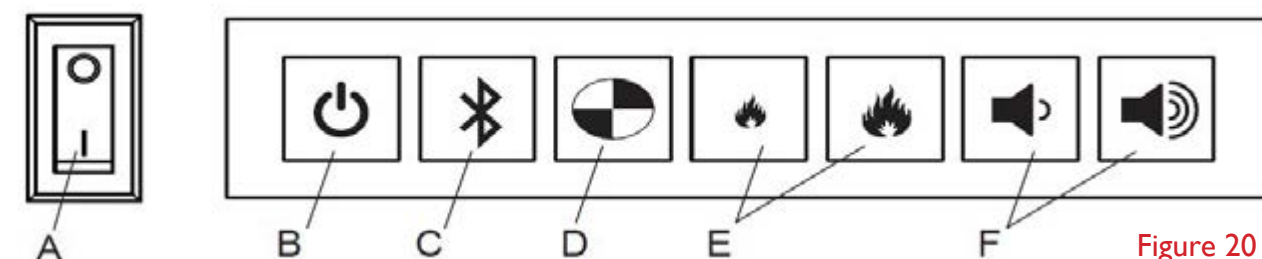
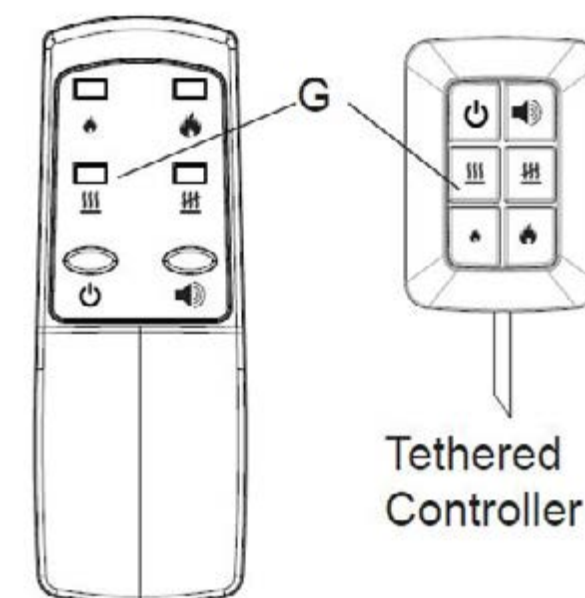

Figure 20
Figure 21
WARNING : This unit must be properly installed before it is used. There are three different control options available for the unit in addition to the WALL SWITCH that is required with every installation: manually using the Switch Board located under the media panel (see Figure 20), tethered controller (see Figure 21, must remain connected & tucked behind unit) and a remote control (see Figure 21).
2. Place the On/Off Switch (Figure 20) in the ON (I) position.
5. Within 20 seconds of pressing the button, press any button on the remote control (Figure 21).
2. Turn the Switch Board On/Off switch to the OFF position (O) (Figure 20).
7. Turn the On/Off switch to the ON position (I) (Figure 20).